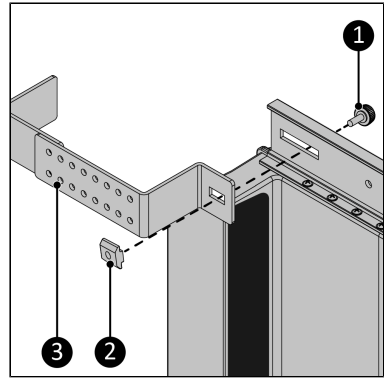

Figure 89.
7. Screw the bracket (Figure 89, pos. 3) to the main rail in the front position using the knob screw (Figure 89, pos. 1). Make sure you connect the knob screw to the slide nut (Figure 89, pos. 2).